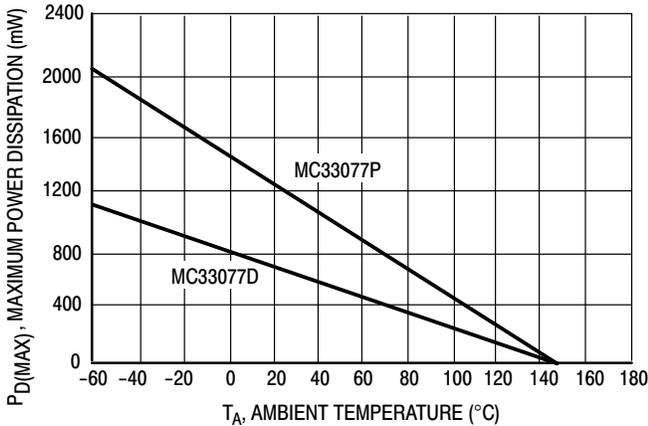

Figure 2. Maximum Power Dissipation versus Temperature
3. Power dissipation must be considered to ensure maximum junction temperature (T_J) is not exceeded (See power dissipation performance characteristic, Figure 2).